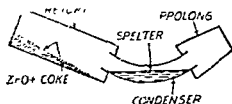

Fig. 55'1—Fire-clay retort with a prolong used in the Belgian process.
(3) **Reduction.** (a) *Belgian Process.* The roasted ore (ZnO) is next mixed with half its weight of carbon (powdered coal or coke) and taken in fire clay retorts which consist of bottle-shaped fire clay tubes (about 1 m. in length and 20 cm. in diameter as given in Fig. 55'1) closed at one end and fitted with earthenware condensers at their mouths. These are heated strongly in a gas fired furnace working on the regenerative principle of heat economy. Carbon monoxide formed by reduction of zinc oxide [$\text{ZnO} + \text{C} \rightarrow \text{Zn} + \text{CO}$] burns at the mouth of the condenser with a flame which is coloured yellow by the slow vaporization of salt. If the colour of the flame changes to green due to burning of zinc vapour, a "prolong" made of sheet iron is slipped on the mouth of the condenser. This helps in completing the condensation.